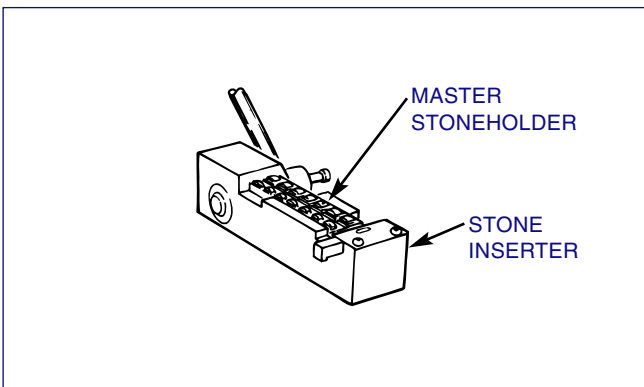

FIGURE 3-11, Master Stoneholder
4. Place Master Stoneholder in fixture. Brush all loose chips from Stoneholder grooves and slots (*see Figure 3-11*).